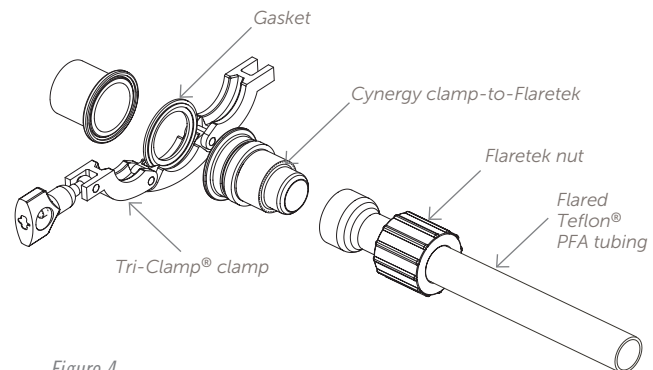

Figure 4.
- Place the appropriate gasket between the two sanitary flanges (Figure 4).